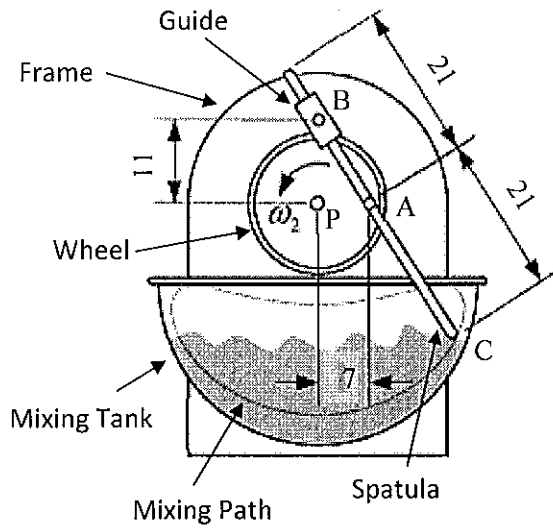

Figure Q1(b)
- b) A mixer shown in **Figure Q1(b)** consists of a spatula, a wheel, a guide, a frame and a hemispherical shape mixing tank. The mixing tank is rigidly fixed to the frame. The spatula is connected to the wheel at **A** such that it can rotate only about **A** while translating through the guide at **B**, which is connected to the frame. The guide can only rotate about **B** so that the lower end of the spatula makes a mixing path as shown. All the dimensions are given in the diagram is in centimetres (cm). The wheel rotates about **P** counter-clockwise with a constant angular velocity (ω_2) of 100 rpm.